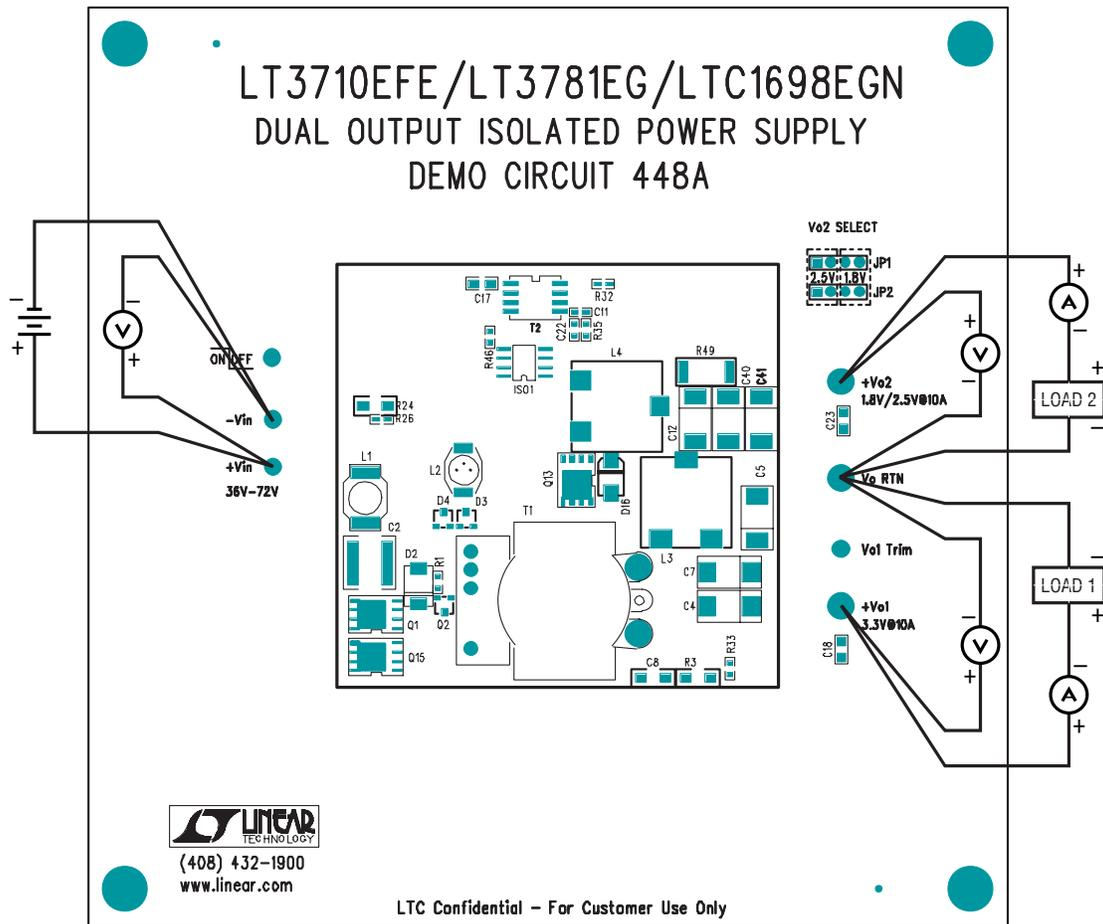

Figure 1. Proper Measurement Equipment Setup
Demonstration circuit DC448 is easy to set up to evaluate the performance of the LT3710, LT3781 and LTC1698. Refer to Figure 1 for proper measurement equipment setup and follow the procedure below:
5. Connect the 3.3V load (Load 1 in Figure 1) between $+V_{o1}$ and V_{o} RTN; connect the 1.8V/2.5V load (Load 2 in Figure 1) between $+V_{o2}$ and V_{o} RTN.